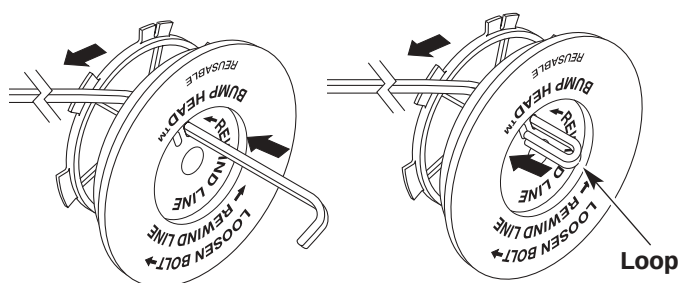

Fig. 37
- Take approximately 20 feet (6.1 m) of new trimming line. Insert one end of the line through one of the two holes in the inner reel (Fig. 37). Pull the line through the inner reel until only about 4 inches is left out.
- Insert the end of the line into the open hole in the inner reel and pull the line tight to make the loop as small as possible (Fig. 37).